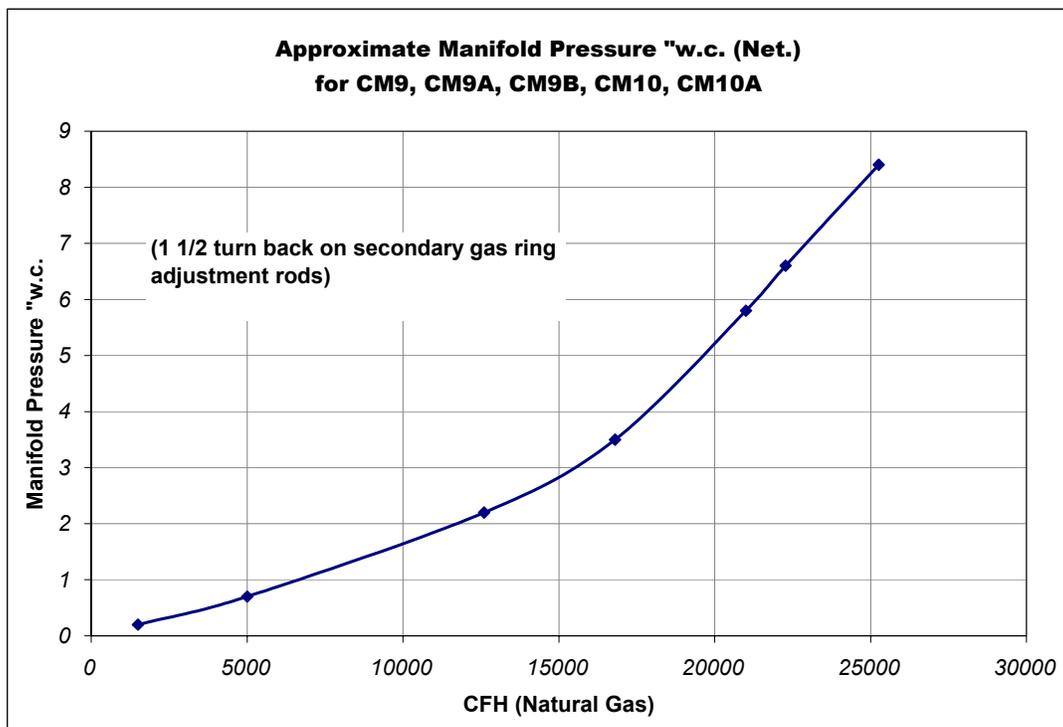
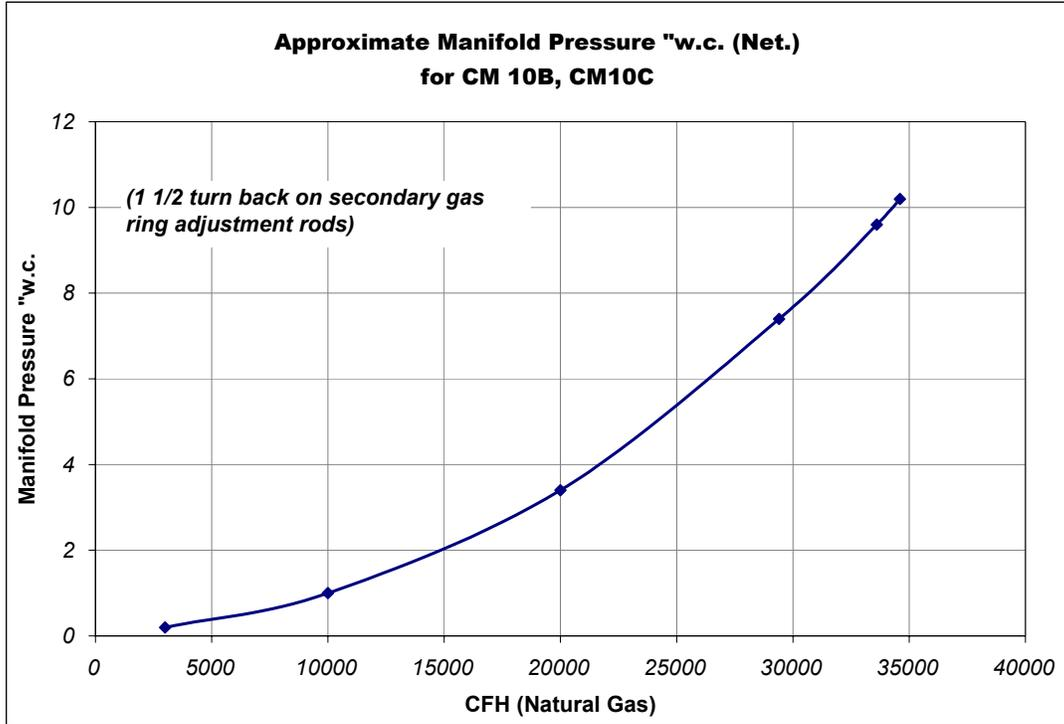
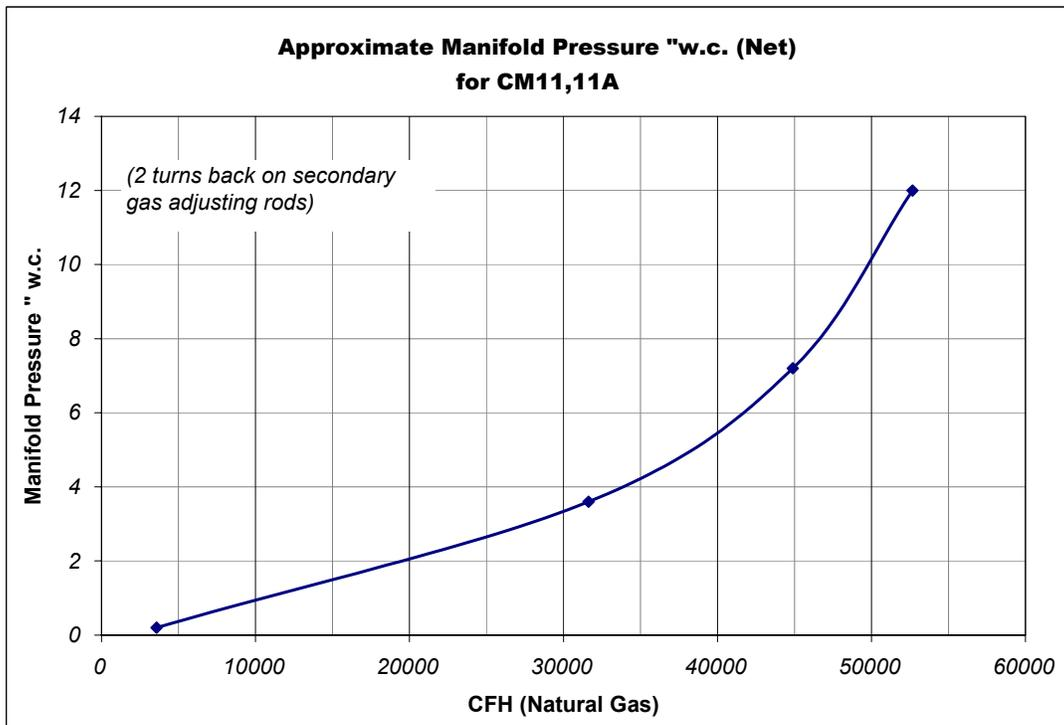
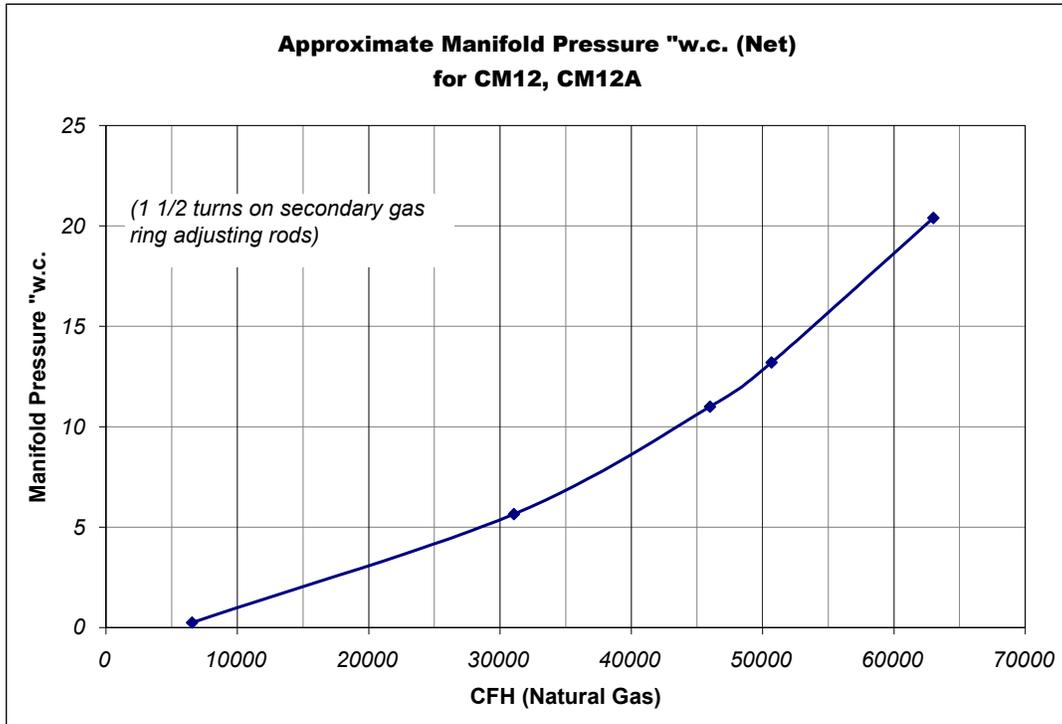

Figure 9: Manifold Pressure versus Firing Rate for CM9, CM9A, CM9B, CM10, and CM10A
Figure 10: Manifold Pressure versus Firing Rate for CM10B and CM10C
Figure 11: Manifold Pressure versus Firing Rate for CM11 and CM11A
Figure 12: Manifold Pressure versus Firing Rate for CM12 and CM12A
- 3.2.18 When firing gas see Figure 9, Figure 10, Figure 11, and Figure 12, "Manifold Pressure versus Firing Rate", to obtain the approximate manifold pressure for a specific firing rate.